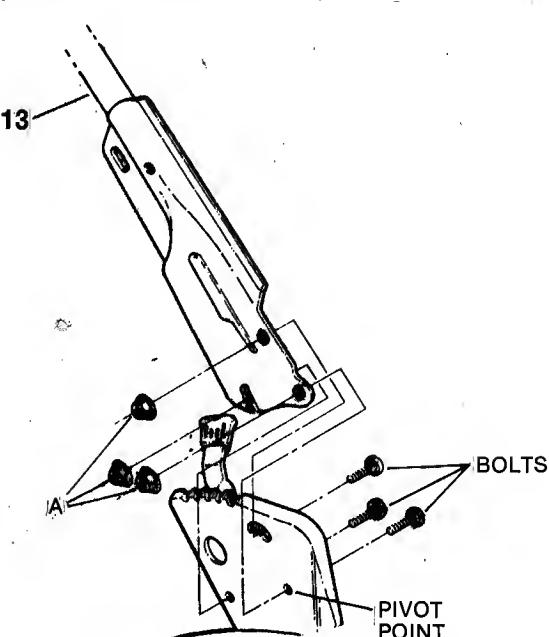

FIG. 19-HEIGHT ADJUSTMENT
To raise or lower handle (13), loosen the adjusting locknuts (A) on both sides of handle shown in FIG. 19. Reset handle to desired position and re-tighten the locknuts.